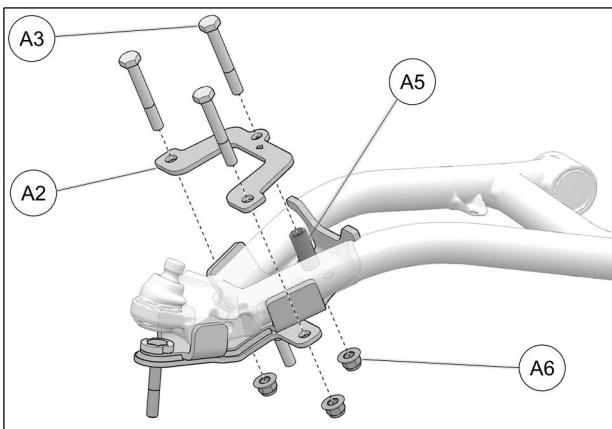

Fig. 18
8. Set bracket cover plate (**A2**) over suspension arm. Insert M10x75mm bolts (**A3**) from the top through cover plate and bushing (**A5**). Secure the parts together with provided nuts (**A6**). Tighten nuts to 50 Nm [37 lb·ft] of torque. See Fig. 18